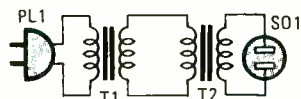

Fig. 1. This isolation-transformer circuit appeared in the November 1991 edition of *Think Tank*. Note that the transformers are both "tapless."
I am writing in regard to the isolation-transformer circuit in the *Think Tank* column of the November 1991 issue (see Fig. 1 for the circuit). The idea of taking two identical power transformers and hooking them up plug-to-primary, secondary-to-secondary, primary-to-socket will not work.
*The solution to those problems is simple: wire only the main secondary windings of the transformers—do not use any of the taps (as shown in Fig. 1). I hope that this clarifies the matter, now let's get to the automotive stuff you readers have sent in.*